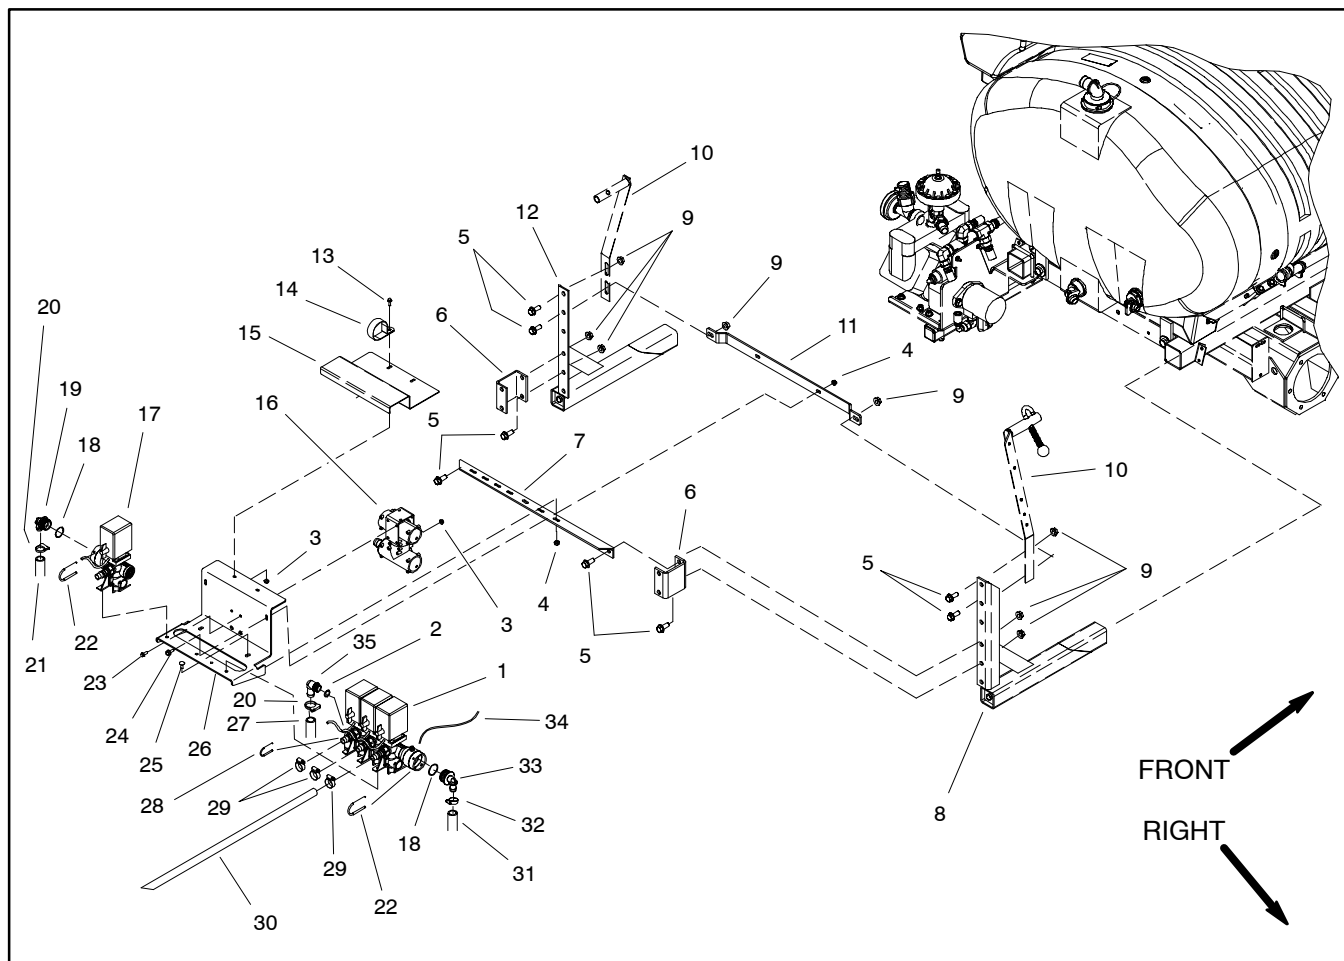

Figure 19
Removal (Fig. 19)
6. Remove additional spray control components as required using Figure 19 as a guide. Discard all removed o-rings and gaskets.
Assembly (Fig. 19)
1. Install spray control components using Figure 19 as a guide. Replace all removed o-rings and gaskets.